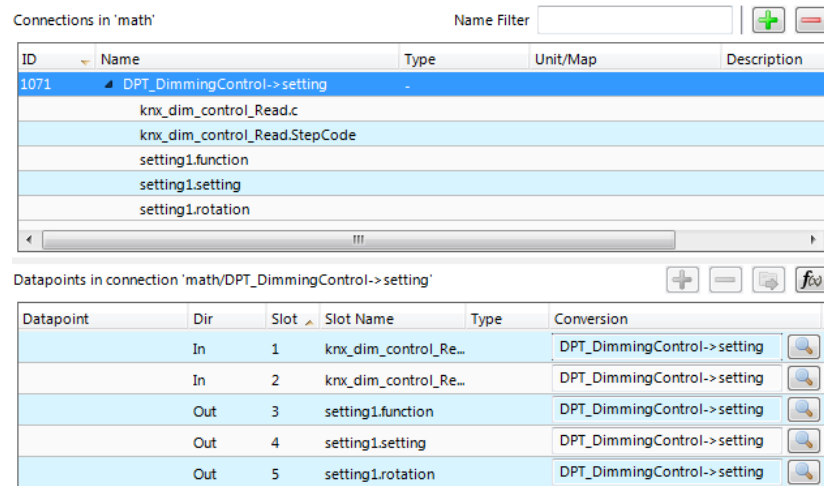

Figure 172: Created new multi-slot connection from math adaptor.
2. In the dialog **Select Multi-Slot Math Adaptor** select an existing adaptor and click **Select**. A new multi-slot connection is added to the connection list with empty slots as depicted in Figure 172.